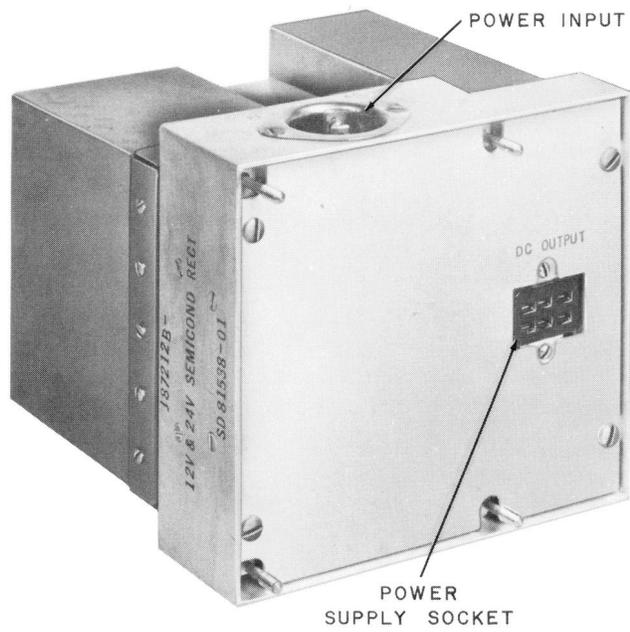

Fig. 2—Data Set 201, Power Supply
- (a) Loosen the four retaining screws and remove the power supply from the data set chassis (Fig. 2).